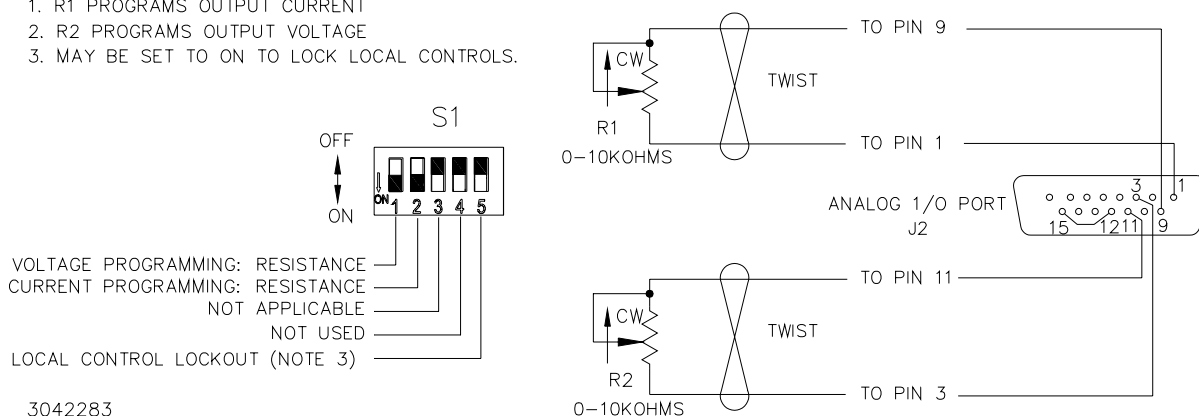

FIGURE 3-15. ANALOG PROGRAMMING OF OUTPUT VOLTAGE OR CURRENT USING RESISTANCE
Figure 3-15 is a simplified diagrams of the KLP showing the switch configuration and external connections required for analog programming using an external resistance.
3. Configure Analog I/O Port J2 (Figure 2-2) by referring to Table 2-7 and Figure 3-15 (grounding J1 pin 12 enables analog programming).
With the power supply configured as shown in Figure 3-15 and assuming the load causes the power supply to operate in voltage mode, varying external resistor R2 from 0 to 10K causes the output voltage of the power supply to vary linearly from 0 to full scale, while R1 can be used to